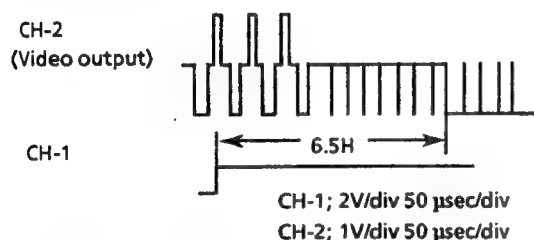

Figure 2-2.
3. Adjust R751 (phase generator MM control) so that the waveform on the oscilloscope screen be as shown in Figure 2-2.